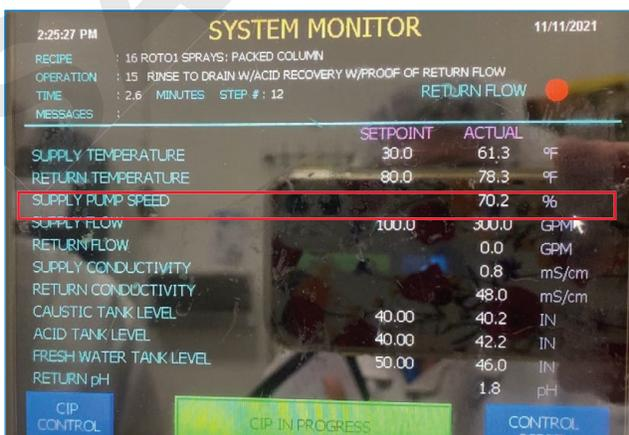

Figure 1.
- The CIP supply pump significantly overshoots the target during each pump start. Target is 100gpm, whereas pump speeds reached up to 300gpm and took approximately one full minute to stabilize (figure 1)